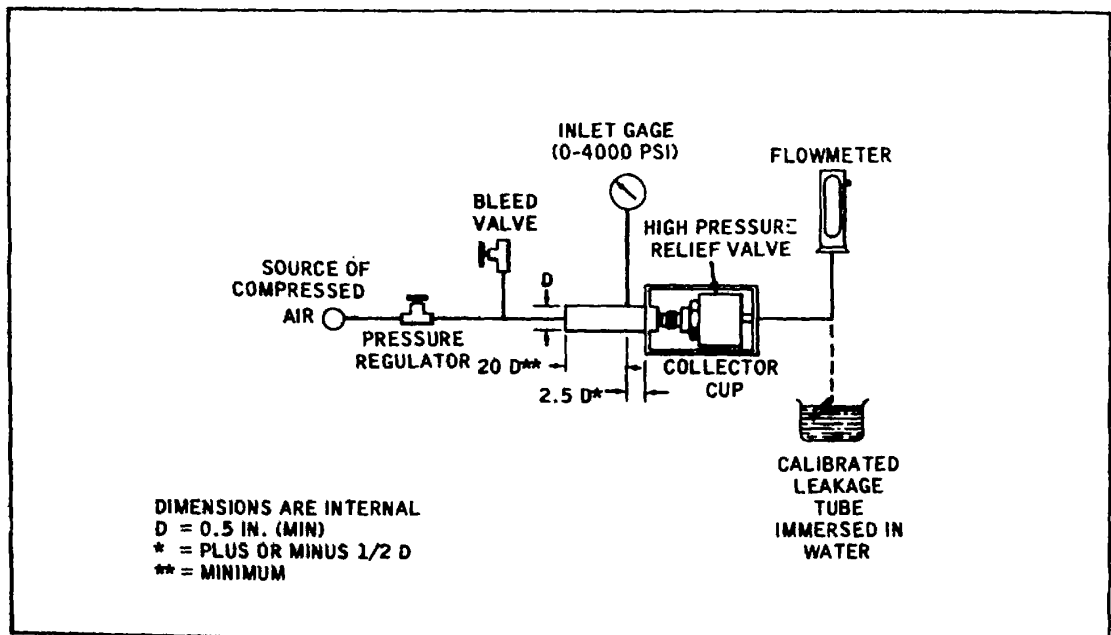

Figure 4-3. Set-up for Testing High Pressure Relief Valve
a. Apply a thin film of pneumatic system grease (Specification MIL-L-4343) to new O-ring packing (10), packing groove in body (11), and mating surfaces of body and piston assembly (7).
b. Insert O-ring packing (10) in groove in bore of body (11). Install ball return spring (9) and metal ball (8) in bore of body.
c. Install piston assembly (7) in body (11) and down over metal ball (8) and spring (9).
d. Insert spring retainer (6), cupped side against piston assembly (7).
e. Place shims (5) and spring (4) in body (11). Screw adjusting screw (2) into body. Screw stem (3) into adjusting screw.
a. Install pressure relief valve in test set-up as illustrated schematically In Figure 4-3. Be sure to observe dimensions specified for approach and exit sections.